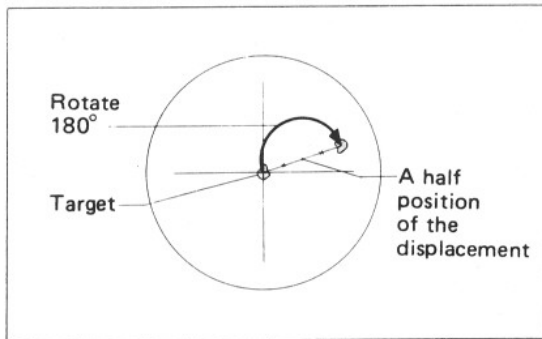

Fig. 10
- 3) Rotate the stage about  $180^\circ$ , and the target is displaced from the center of the cross lines. Move the objective using the centering tools so that the center of the cross lines comes to one half position of the displacement of the target. (Fig. 10)